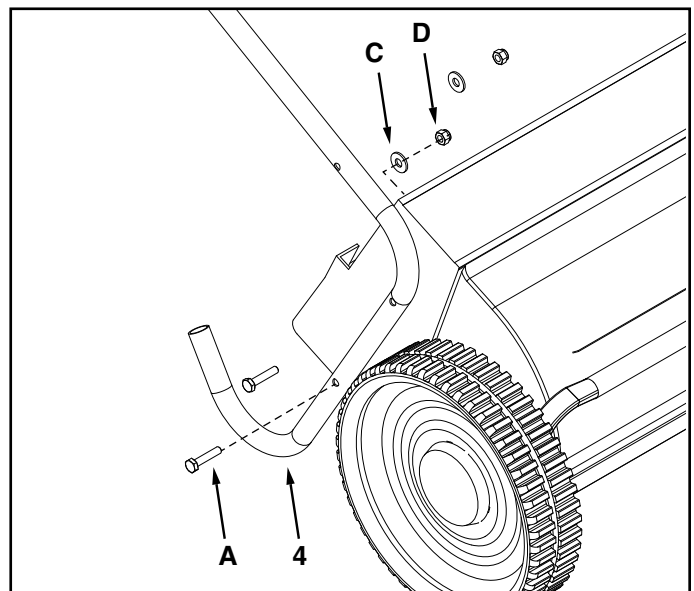

FIGURE 2
3. Turn the sweeper upright and assemble the two handle leg stand tubes (4) to the sweeper housing, using two hex bolts 1/4" x 1-1/4" long (A), flat washers (C), and 1/4-20 nylock nuts (D) per handle. See figure 2. Only hand tighten at this time.